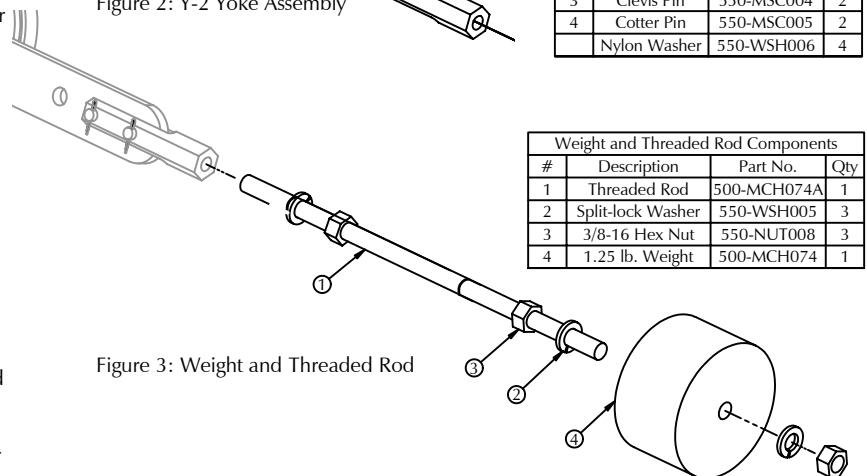

Figure 3: Weight and Threaded Rod
2. Assemble the weight and threaded rod (figure 3).